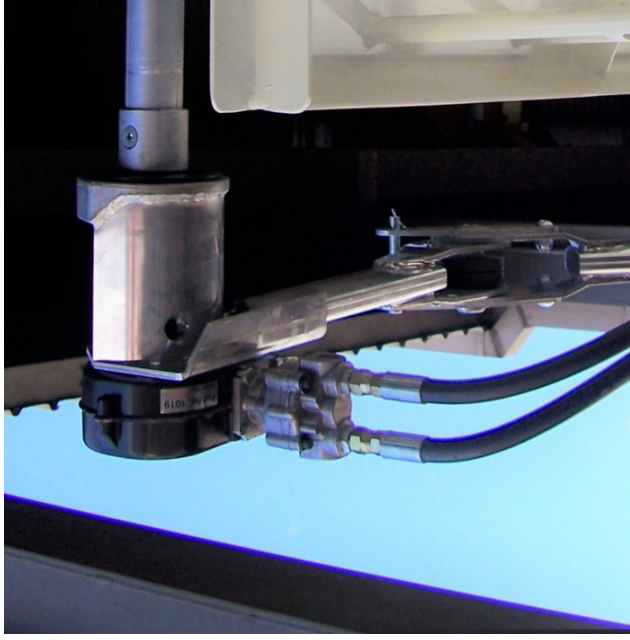

Figure 3: Example of system plumbing
4. If the arm cannot be moved to the lowest point in its travel. A 50 mm (2") Ratchet strap should be used to pull the upper section of the arm downwards towards the ground as shown in **Figure 3**. This should then be anchored to the chassis or rigid hard point. **NOTE: The ratchet mechanism MUST be accessible from ground level while standing on the open position side of the body/vehicle.**